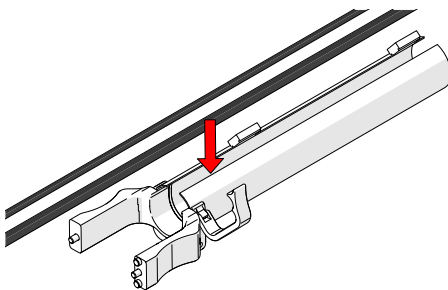

Fig. 139 - Insert cables and hoses
1. Open the cable management tube. Begin at the clamp end and start placing the cabling in the tube (Fig. 139).